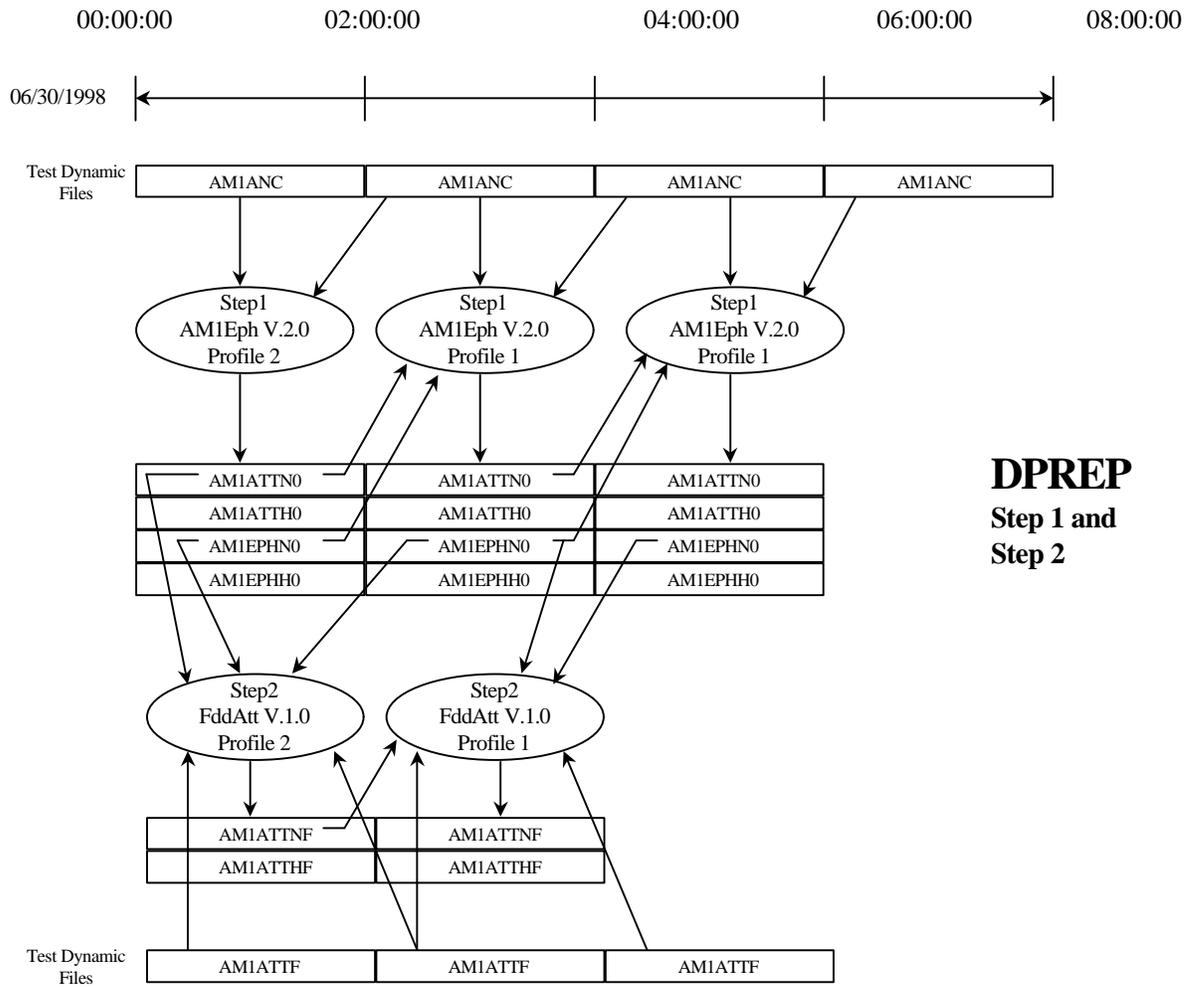

Figure 11.17.1-1. DPREP File Processes
- The input files come from INGEST. These files are depicted in two of the three step DPREP process in **Figure 11.17.1-1**. DPREP Step 3 will be available with Drop 5A.
The Level Zero datasets are received in 2 hour chunks. The file processes in Figure 11.17.1-1 depicts the minimal time span allowable for a DPREP run. In a normal operation of DPREP, a twenty four hour time span would be prepared for. This would require additional 2 hour chunks and thus additional files of data would need to be registered. Before the registration process can take place a number of files will have to be updated to process a block of data for a particular time period. Therefore, DPREP input files will have to be identified and various templates for the SSI&T process will require annotation.